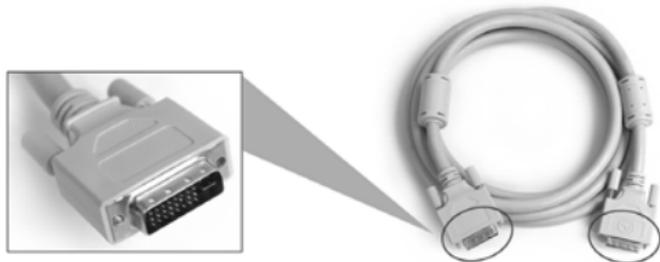

Figure 1. DVI cable
- One DVI cable for monitor, as shown in Figure 1.